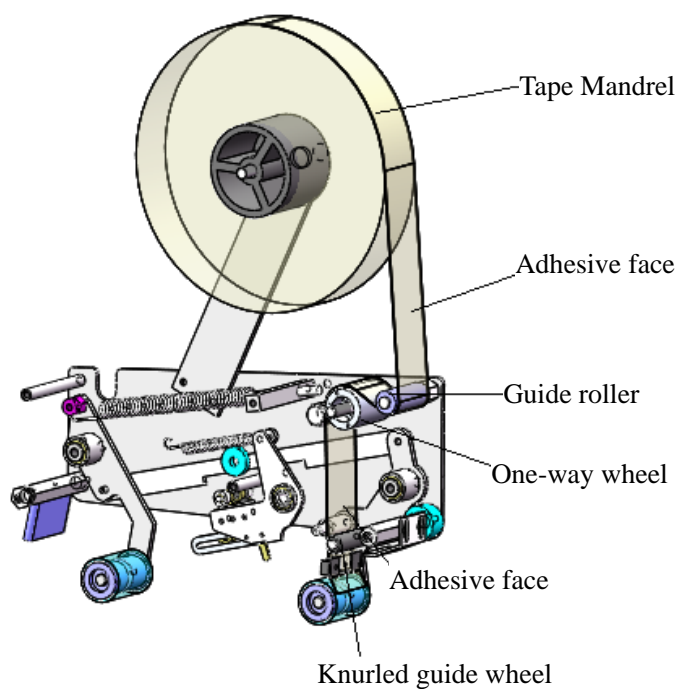

Figure 4
4.1 First, put the new tape roll onto the tape mandrel, as shown in the figure. Next, pull out the tape to bypass the knurled rotary sleeve and then bypass the shaft sleeve along the line. Lastly, bypass the knurled rotary shaft and pass the tape through the black inner sleeve and go out, as shown in the figure below. During the whole process, make sure the adhesive face of the tape is outward. (See Figure 4):